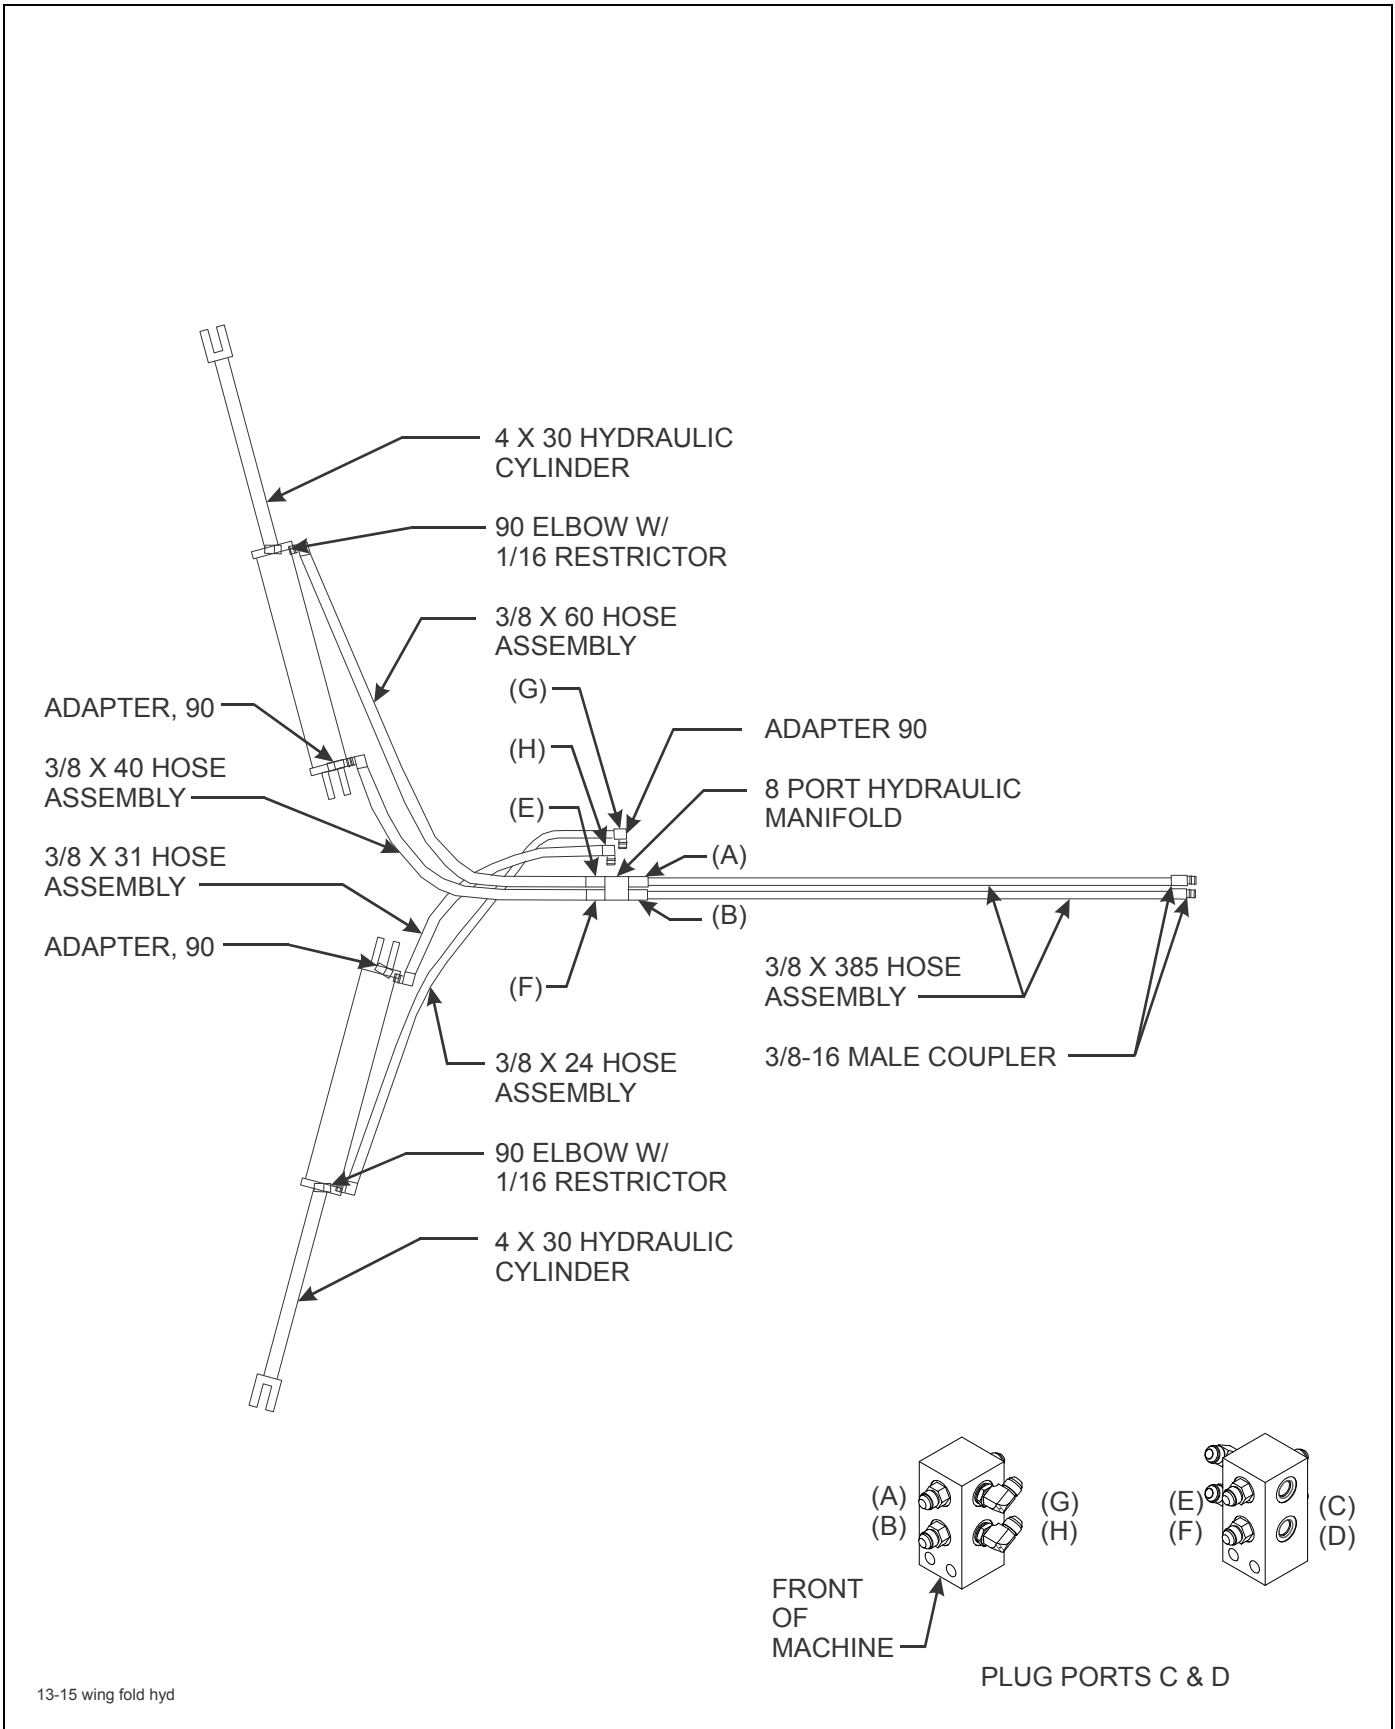

Figure 3-21: Wing Fold Hydraulic Installation (2211-13 & -15)
4. Install wing fold system hoses (2211-13 and -15 models) per **Figure 3-21**.